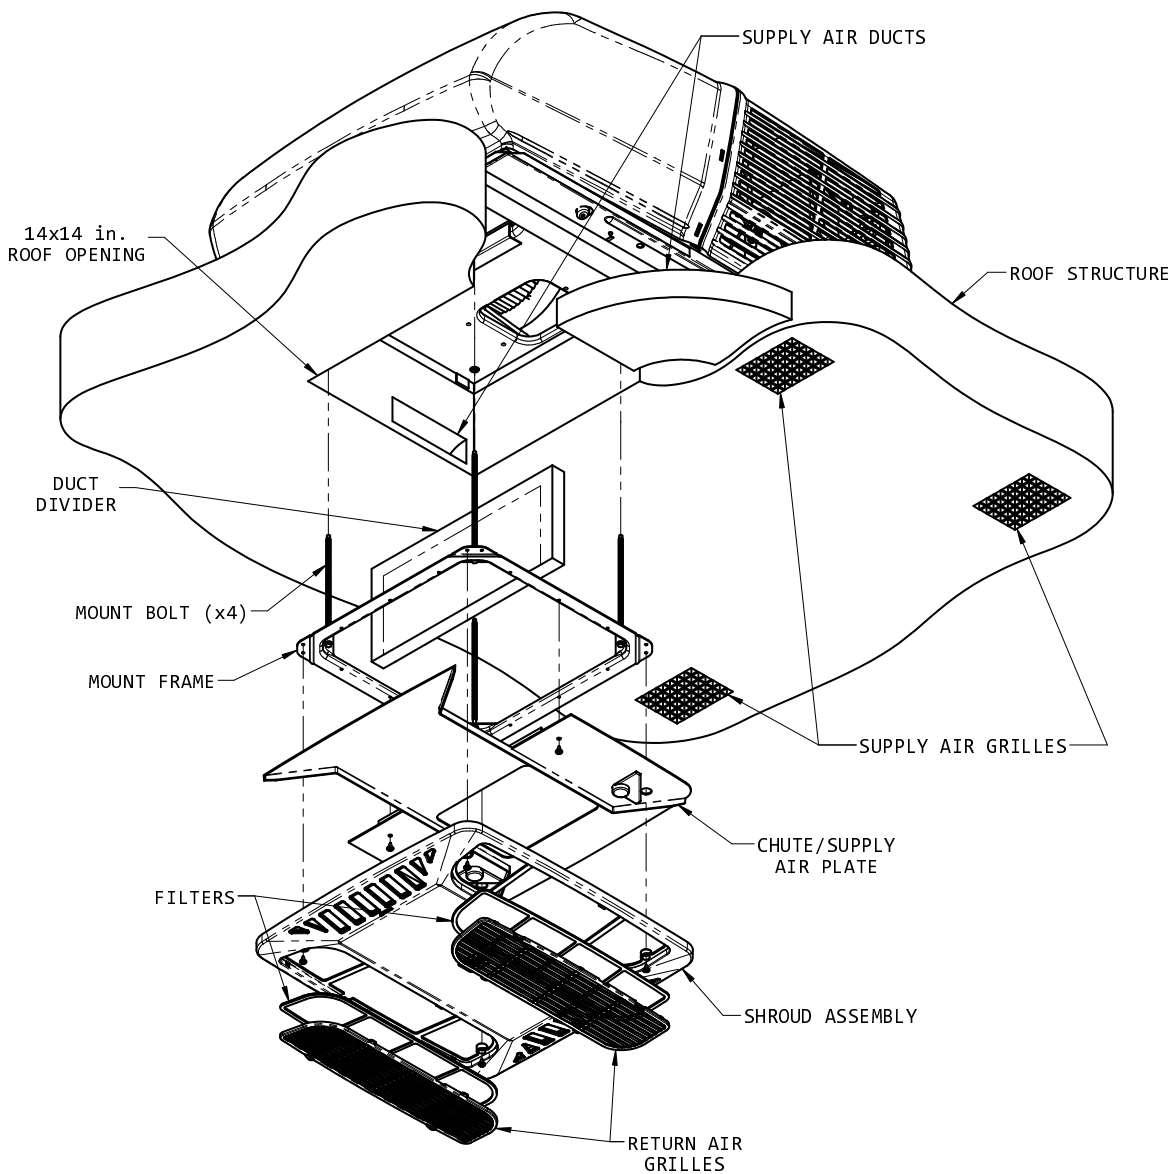

FIGURE 1
1. The field fabricated supply ducting must open into both ends of the ceiling plenum. Two ducts are required; one duct attached to the front, and one to the rear of the plenum (See Figure 1).
2. Position the mount frame into the ceiling opening (See Figure 1).
3. Using the four bolts provided, secure the mount frame to the roof top unit. The four mounting bolts are to be applied up through the bottom of the mount frame and into the bottom of the roof top unit (See Figure 1). Tighten each bolt until the indicators of the gasket are at roof level.
1. Raise the chute/supply air plate to the mount frame and ensure the plenum duct divider is positioned between the two ribs. Install the chute/supply air plate to the mount frame with 2 screws provided in the parts package (See Figure 1).